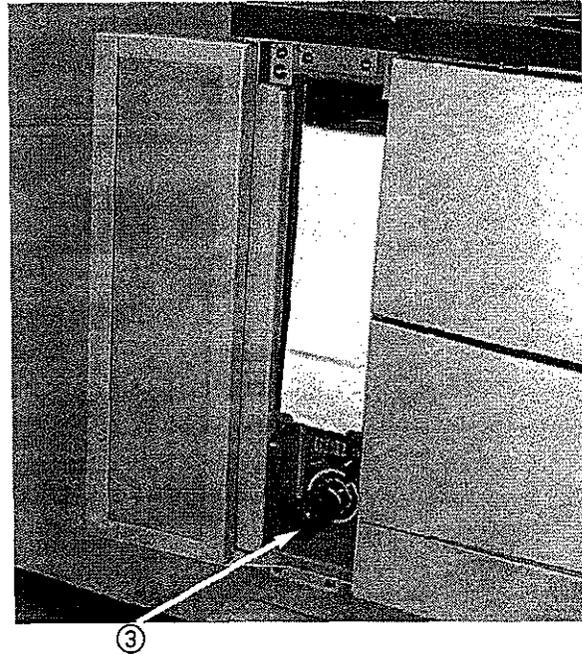

Figure 2-3
- a. Connect the drain/fill hose to the external drain port ③ (figure 2-3) located behind the door on the left side of the instrument next to the paraffin oven. Push gently on the lower right of the door where indicated to get access to the port.